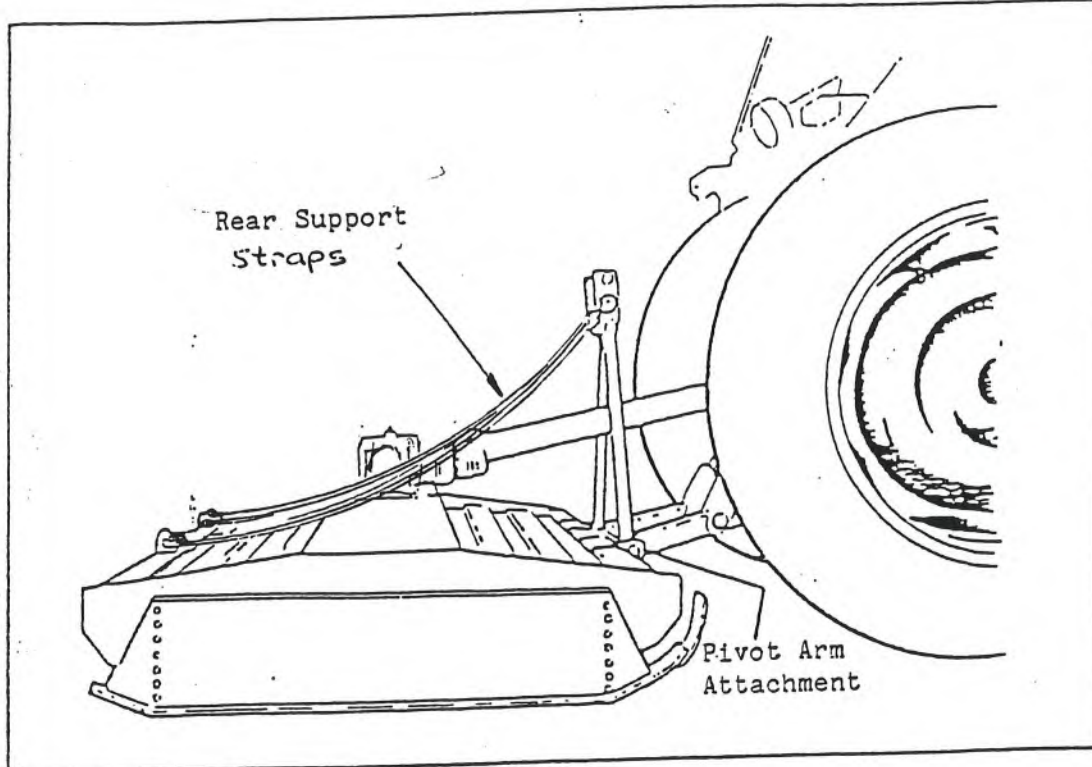

FIG. 5 Support Chains
- (a) Fit Rotary Topper to the tractor's hydraulic three point linkage in the normal way. If possible use righthand and lefthand stay bars or check chains. While in operating position, adjust top link until rear support straps are slack as illustrated in Fig. 5.